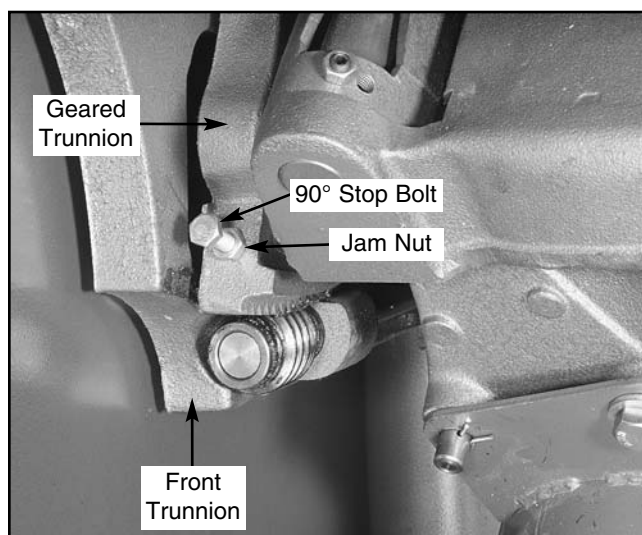

Figure 21.
5. Loosen the jam nut and thread the stop bolt in or out not more than a half turn. **Figure 21.**